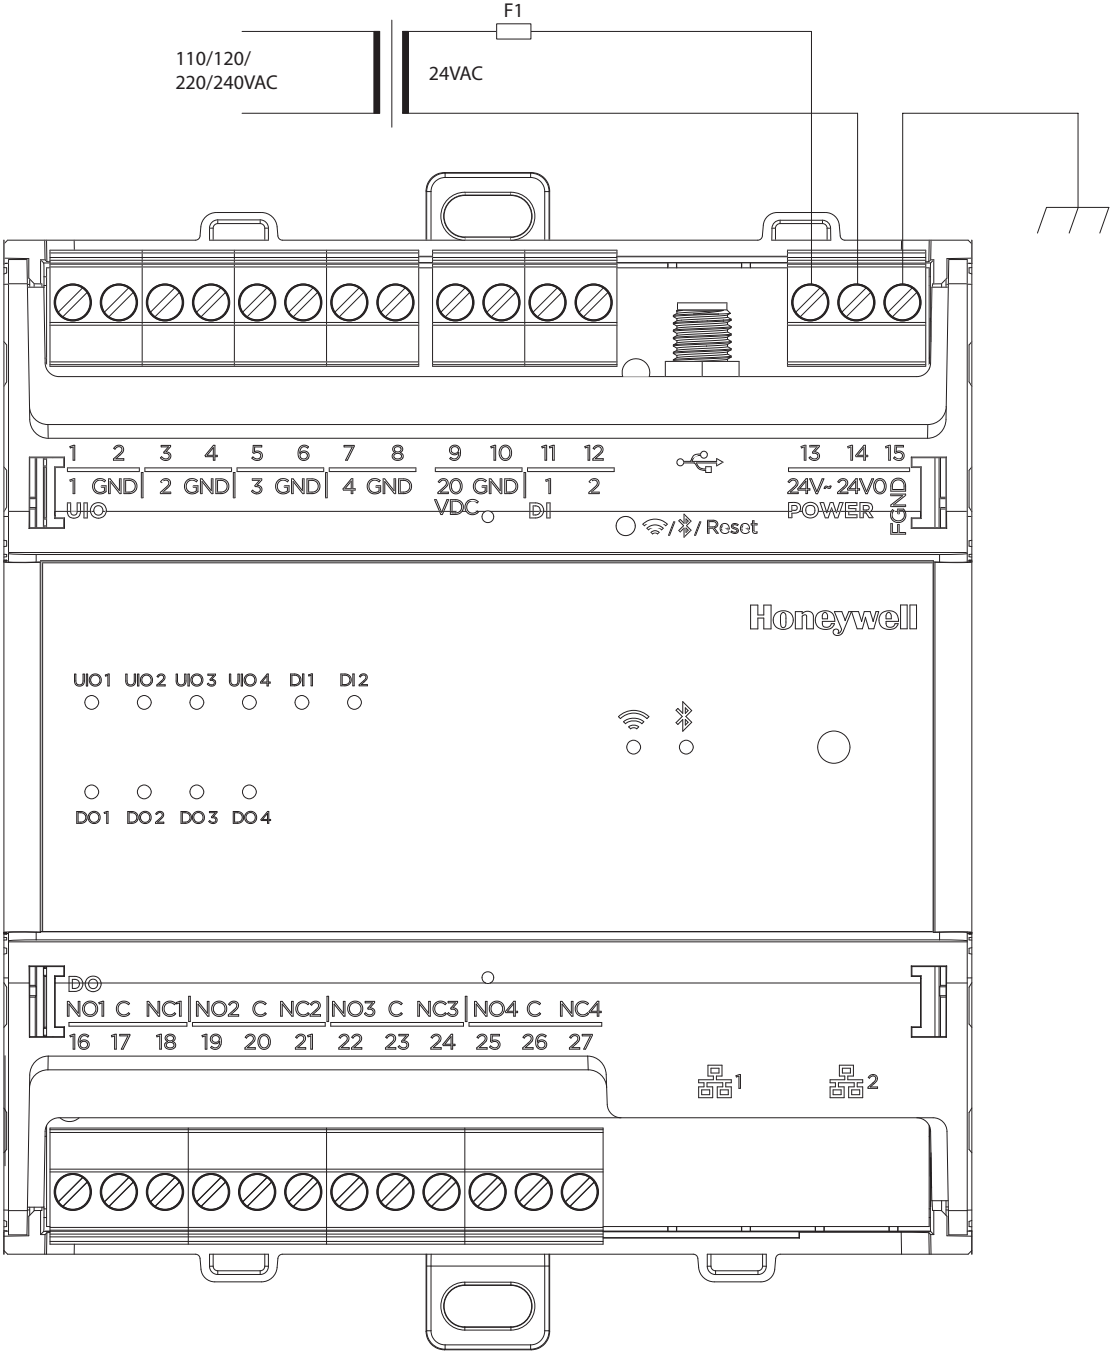
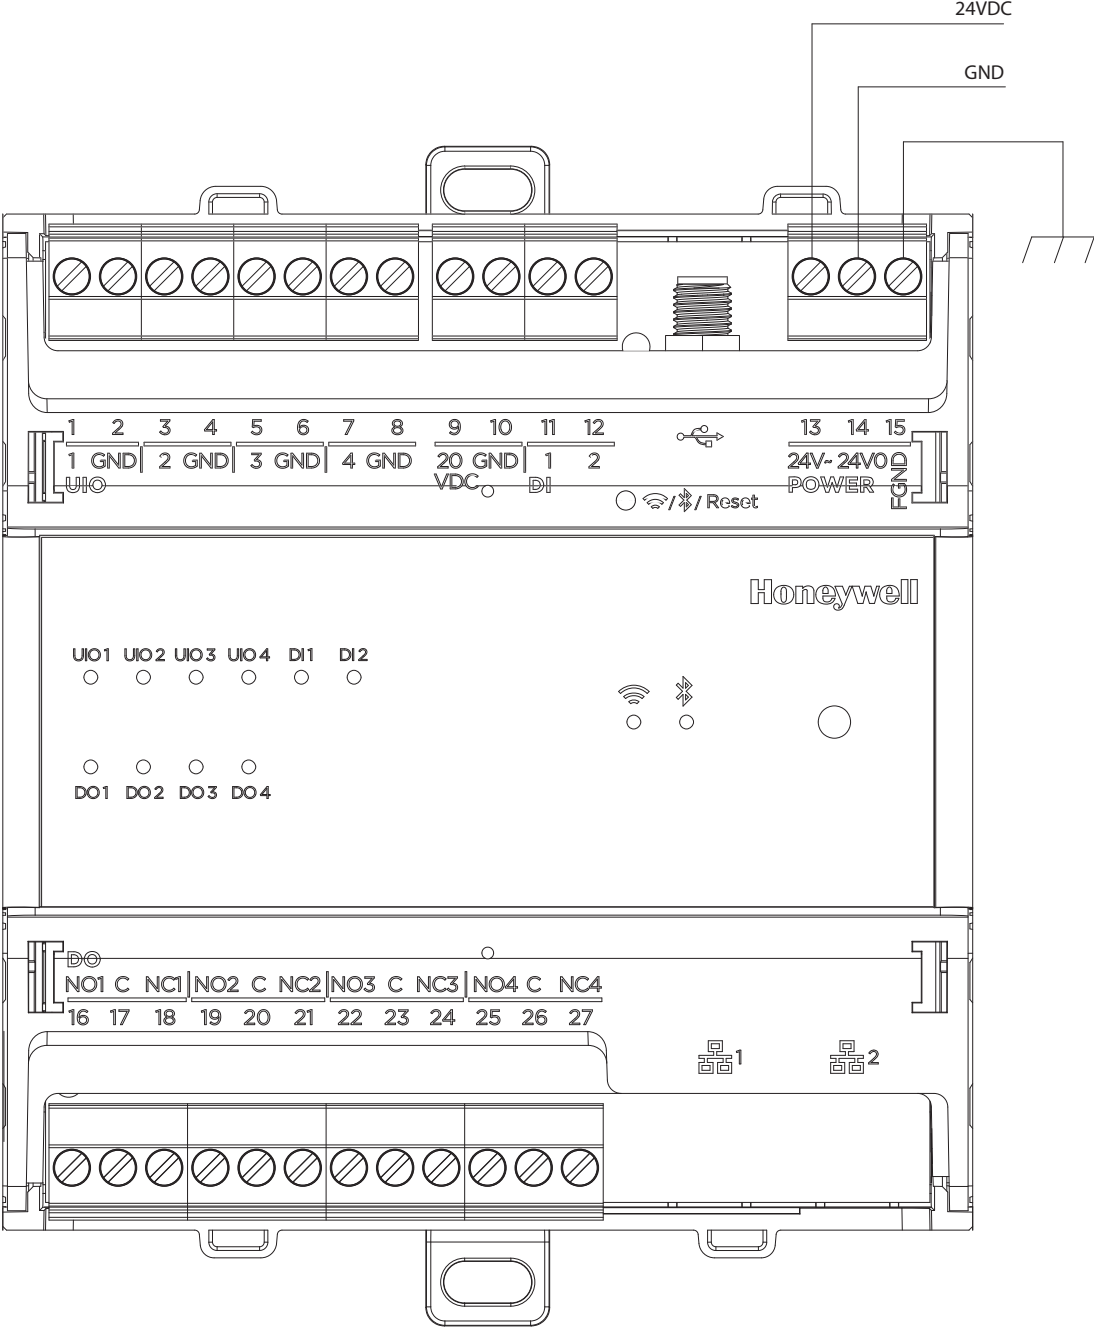

Fig. 2. Power supply Vac
Fig. 3. Power supply Vdc
- \* Refer to Fig. 2 for AC power supply and Fig. 3 for DC power supply.